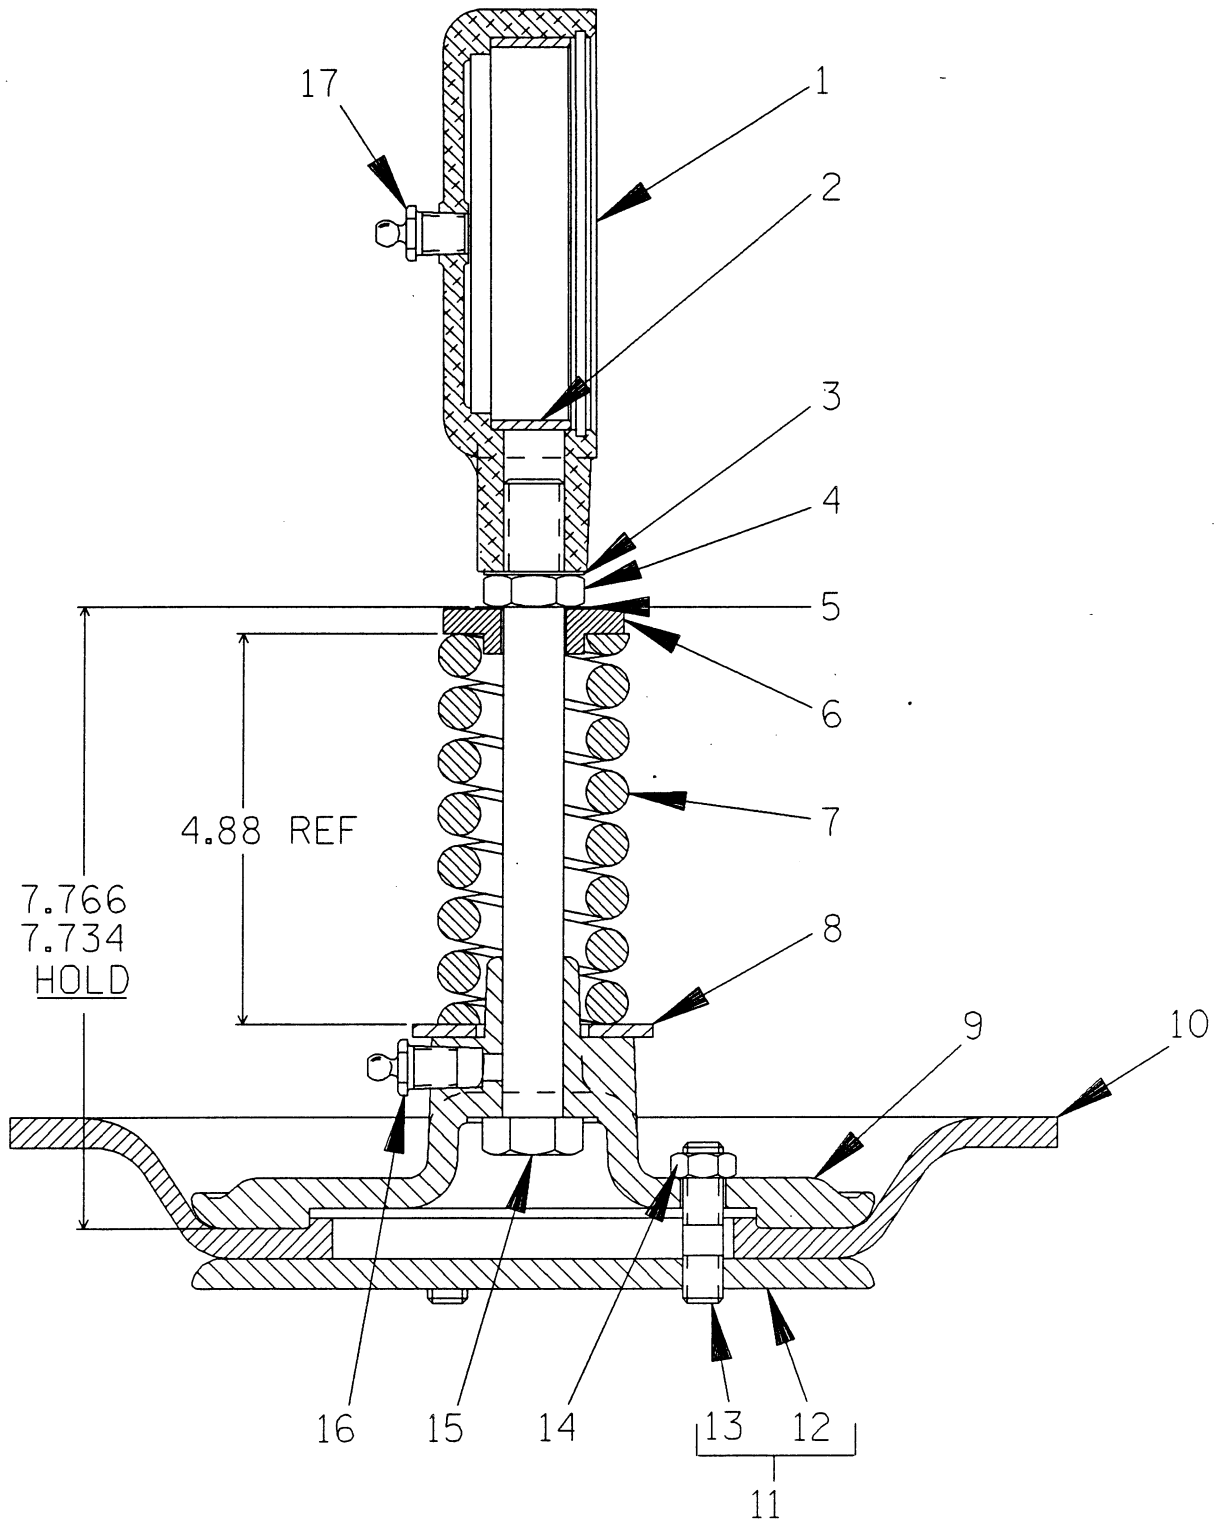

Figure 3. Standard 5685 And Optional 5685-B Plunger Rod Assembly
To remove the diaphragm (10, Figure 3), disengage the hardware (32 and 33) and remove the diaphragm pot assembly (34). Inspect the diaphragm ring (36) for wear or damage. If replacement is required, the gearbox assembly (8) must be removed.